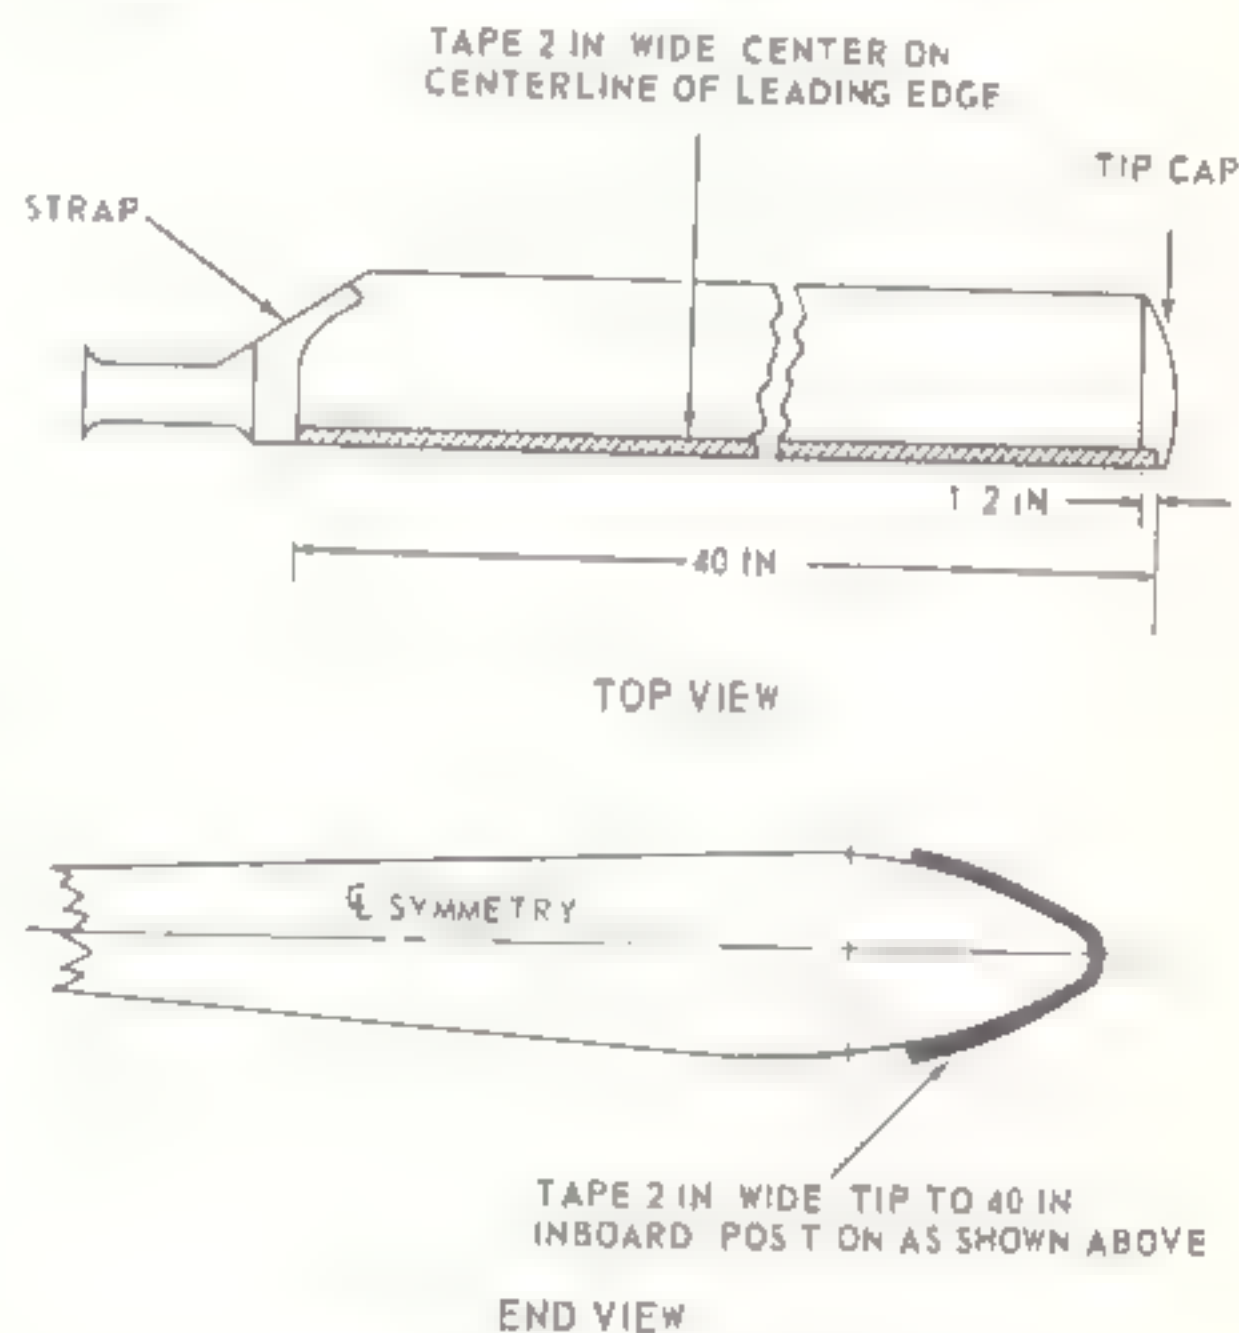

Figure 8-16. Position of vinyl tape
a. Clean surface of leading edge of each tail rotor blade with a solution of mild soap (item 14, table 1-8) and water only.
b. After surface has dried, apply a 2-inch wide by 40-inch long strip of vinyl plastic pressure sensitive tape (item 78, table 1-8) to leading edge of each tail rotor blade. (See figure 8-16.) Center tape on centerline of blade leading edge, starting 1/2 inch outboard of the line defining attachment of blade tip cap.